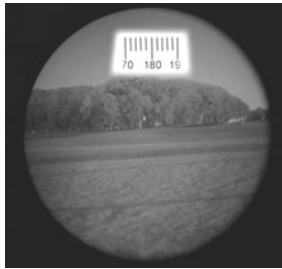

FIGURE 3-11. VIEW THROUGH INSTALLED COMPASS
3. To view the compass through the PVS-7, grip the compass with your index finger on top and your thumb on the illumination button on the bottom (Figure 3-4). Press the button slightly with your thumb until the proper brightness is reached. The image should appear as shown in Figure 3-11.